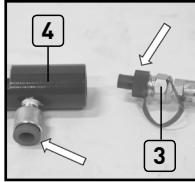

Fig.1
1. Unscrew the end caps from the Hydraulic Hose w/Coupling (3) and hydraulic Ram (1) (Fig1). Retain end caps for use when storing the kit.